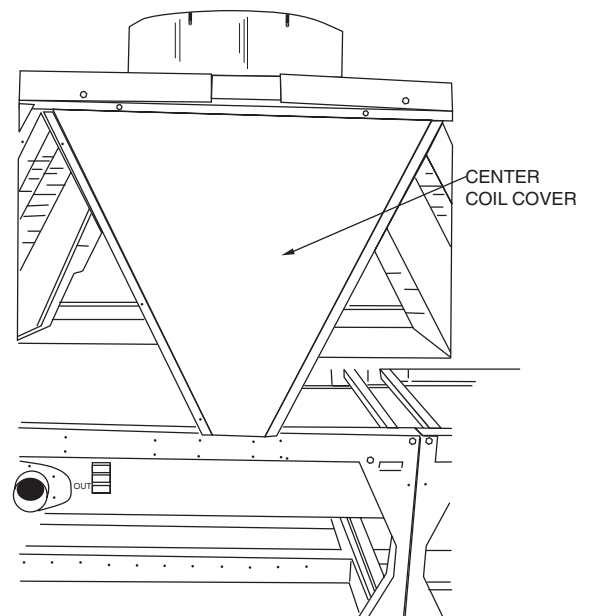

Fig. 4 — Installation of Center Coil Cover
4. Using screws provided, install a center cover at each end of each condenser coil section (sizes 30RB090-300 and 30XA080-500 only). See Fig. 4.